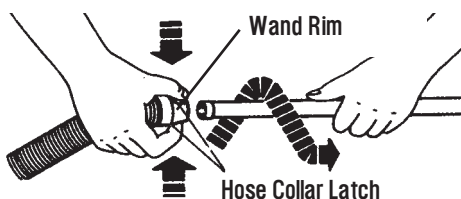

Figure 11a
2. Hold the Hose Collar in one hand and, using your thumb and forefinger, press in both of the Hose Collar Latches. (See Figure 11a.)
3. With your other hand, pull the Wand all of the way out of the Hose Collar. (See Figure 11a.)